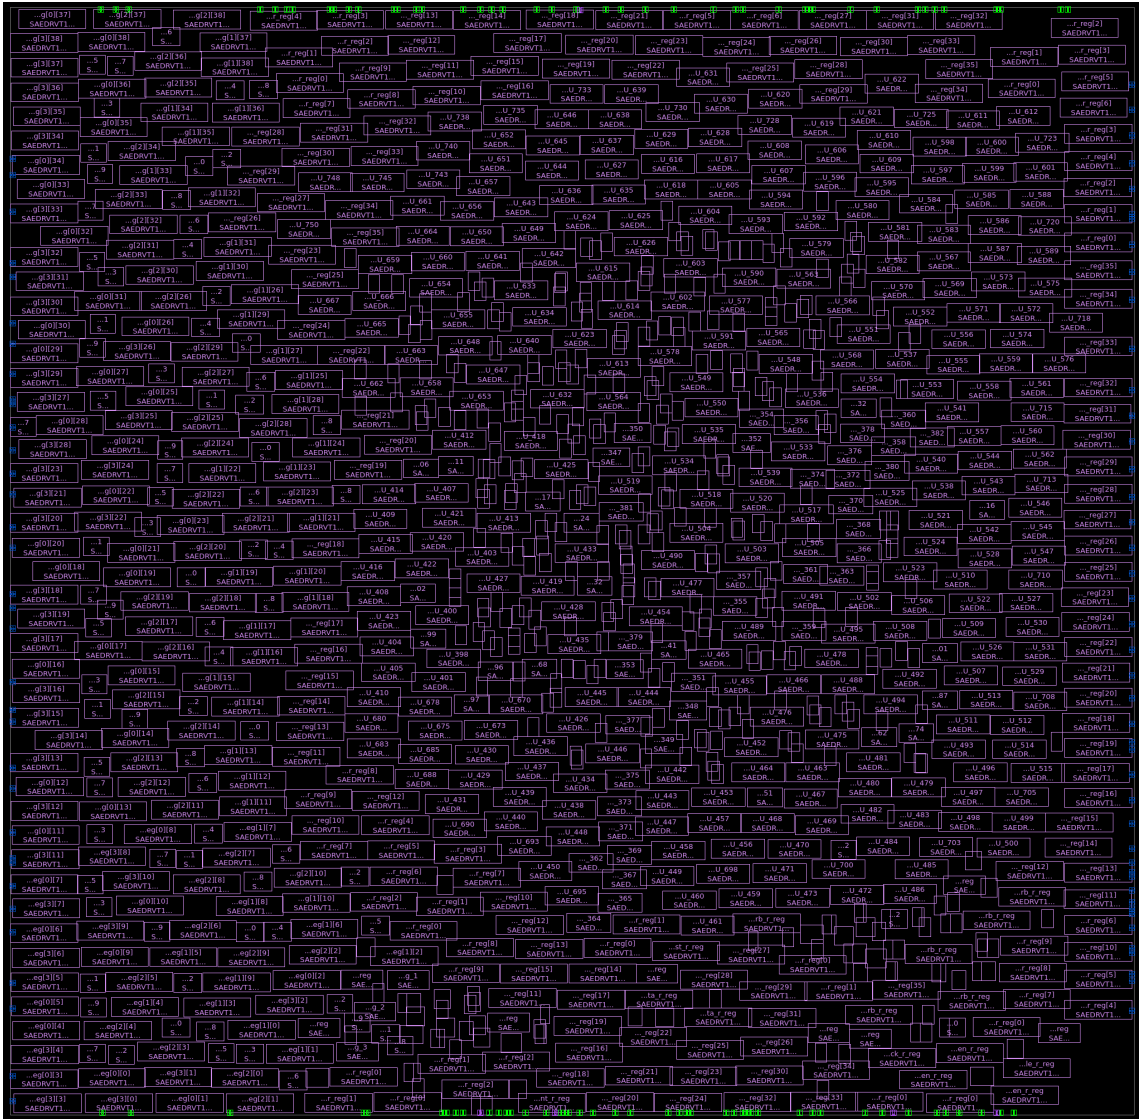

Figure 4.1: Automatic floorplan with no changes.
1. The floorplan is square-looking (Fig. 4.1)